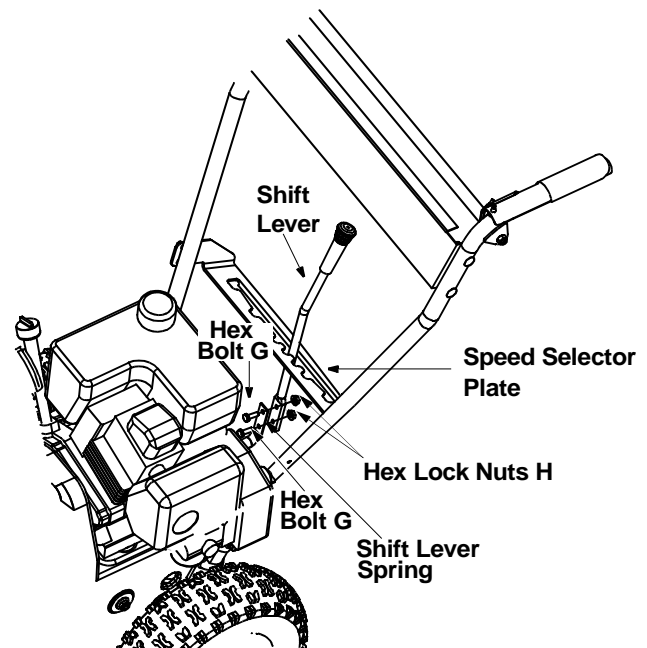

Figure 7
- Insert the shift lever through slot in the speed selector plate. See Figure 7.
bolts finger tight. At this point the shift lever and shift lever spring are not against each other. As you tighten the bolts and nuts with two wrenches, these will pull together. See Figure 7.